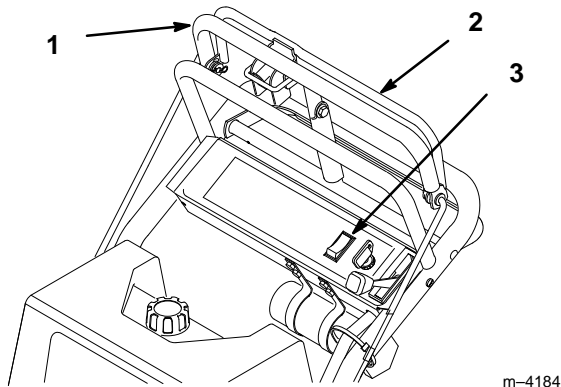

Figure 13
1. Pull on the upper control bar to stop the machine (Fig. 13).
1. Releasing blade control bail to disengage blades (PTO) (Fig. 13).
2. Or push the blade control switch (PTO) to the “OFF” position (Fig. 13).